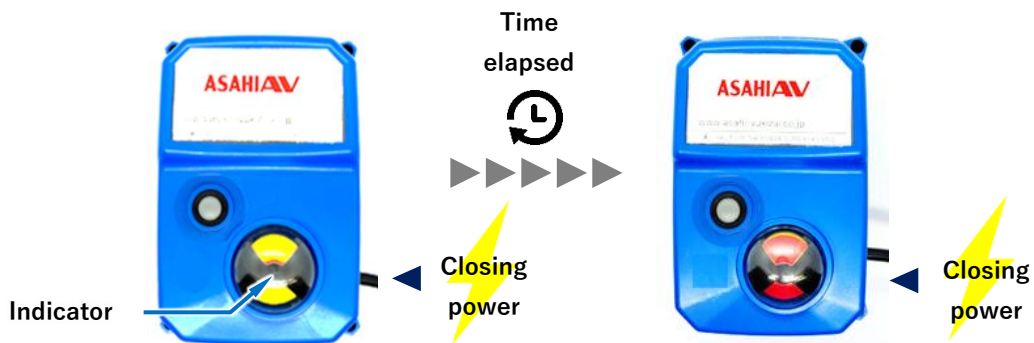

Figure 7.2-1 Closing control
- ① Confirm that the actuator indicator is "solid yellow".
- ② Supply closing power (power between blue and red of the pre-cable) from the distribution board to the actuator.
- ③ After the set period of time, confirm that the actuator indicator automatically stops at "solid red" (Figure 7.2-1).